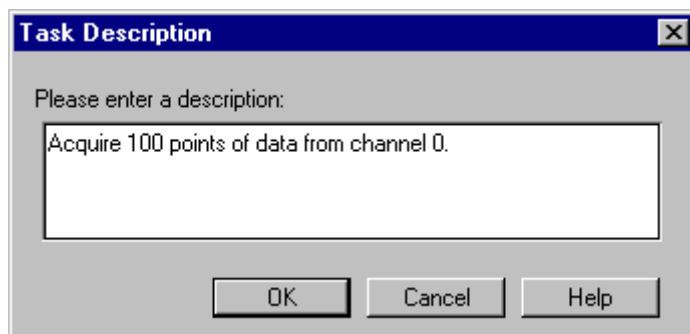

Figure 2-3. Task Description Dialog Box
6. Click on the **Description** button to add a description for your task under development, shown in Figure 2-3. Type Acquire 100 points of data from channel 0 in the Task Description dialog box, and click on the **OK** button.